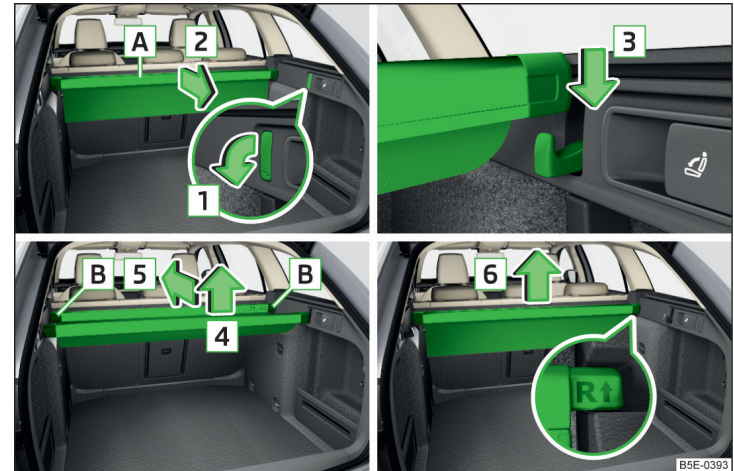

Fig. 117 Multi-function pocket: Pull out / insert / push in / remove
- › Fold down the front hooks on both sides of the luggage compartment in the direction of arrow **1** » Fig. 117.
- › Remove the rear bar from the hook in the direction of the arrow **4** » Fig. 117.
» Fig. 117.